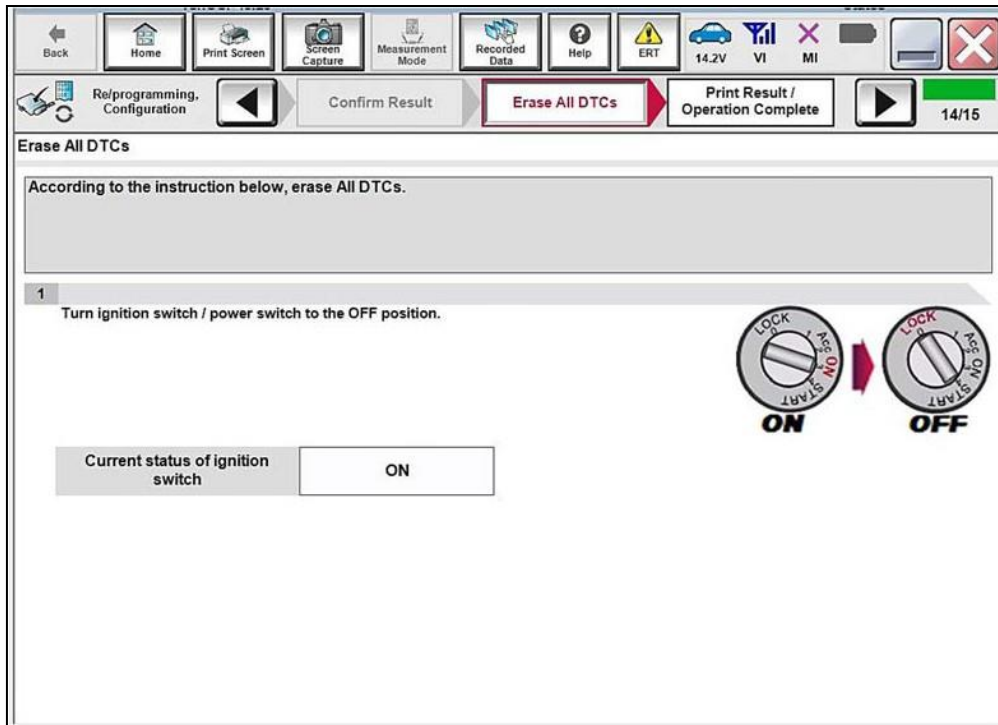
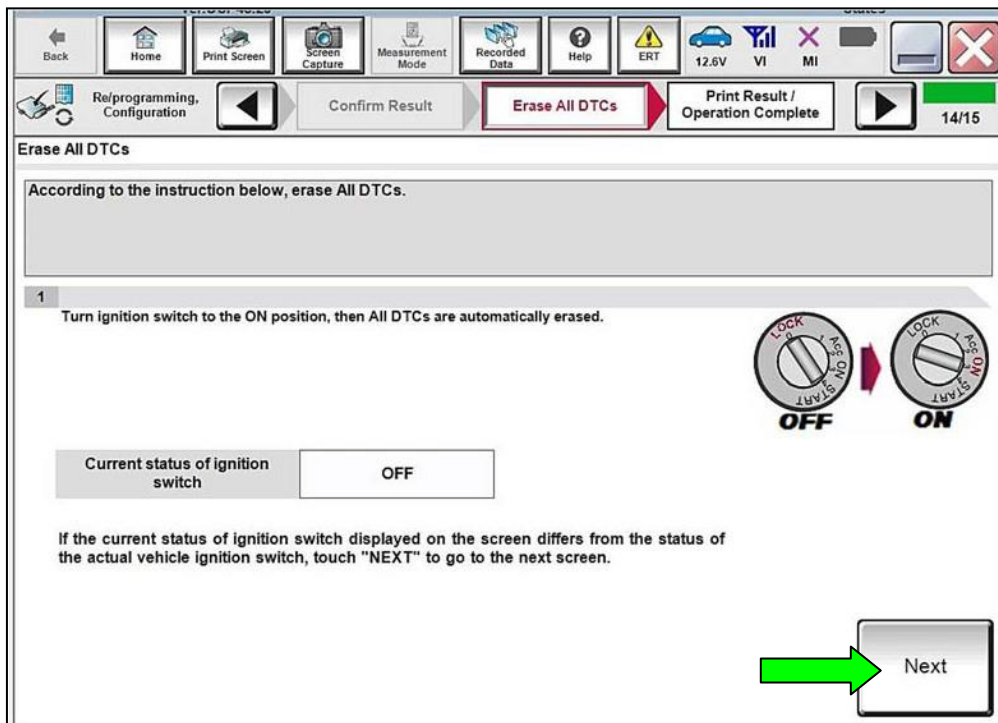

Figure 76
Figure 77
a. Follow the on-screen instructions as shown in Figure 76 and Figure 77.